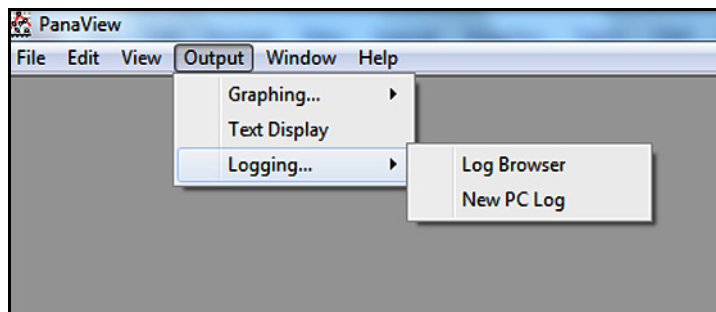

Figure 79: Selections in the Logging Option
1. Open the “Output” menu (see *Figure 61 on page 51*), and click “Logging” option to open the window shown in *Figure 79* below.